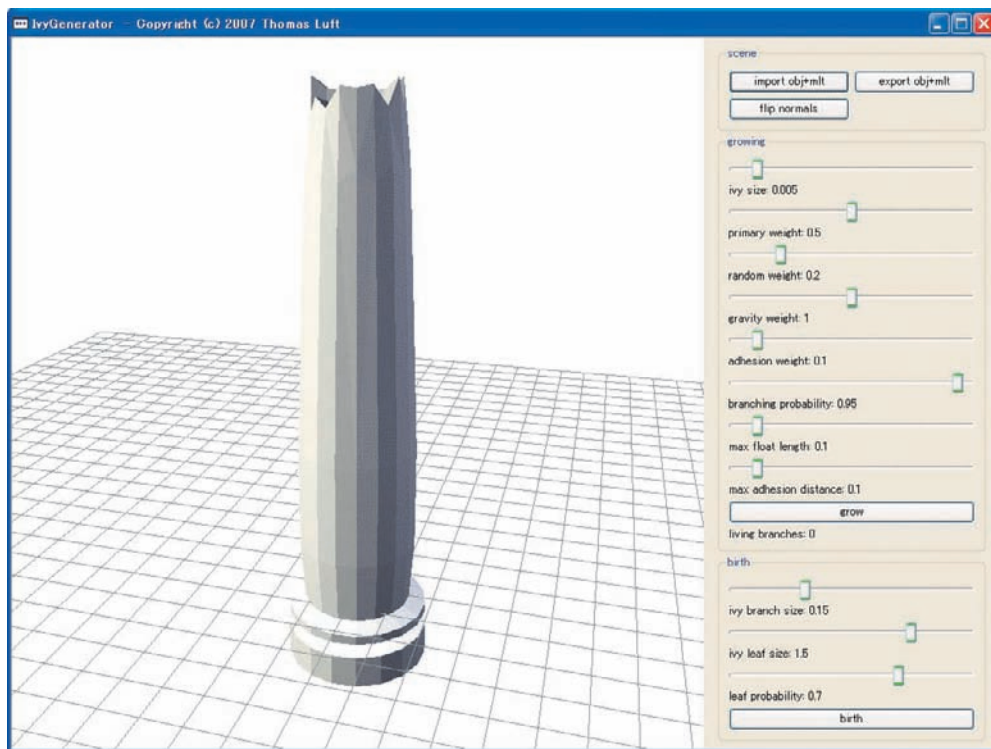

Figure 7.42 The Ivy Generator with the pillar imported
3. After you have exported the objects to an .obj file, you can set Blender aside and start up the Ivy Generator. The interface is simple. On the right is a panel with the buttons and parameters you will use to create the simulation, and on the left is the 3D viewport. Click Import Obj+Mlt and find the .obj file that you just created. After you've imported it, you will see the pillar in the 3D viewport, as shown in Figure 7.42. You can zoom the view with the RMB, and translate the view with the LMB (or, for more Blenderlike movement, Shift+LMB), and rotate the view with Ctrl+LMB. The default translation and rotation directions are actually the opposite of Blender's, which takes a bit of getting used to, but there is very little translation and rotation necessary to do what you need to do in this software, so this isn't a big problem.